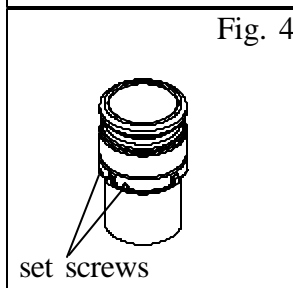

Fig. 4
STEP 4: Replace and tighten the two set screws to prevent loosening of the bottom section of the B-70 (see Fig. 4). RECOMMENDED: use lock-tite with the set screws before replacing these unto the B-70.